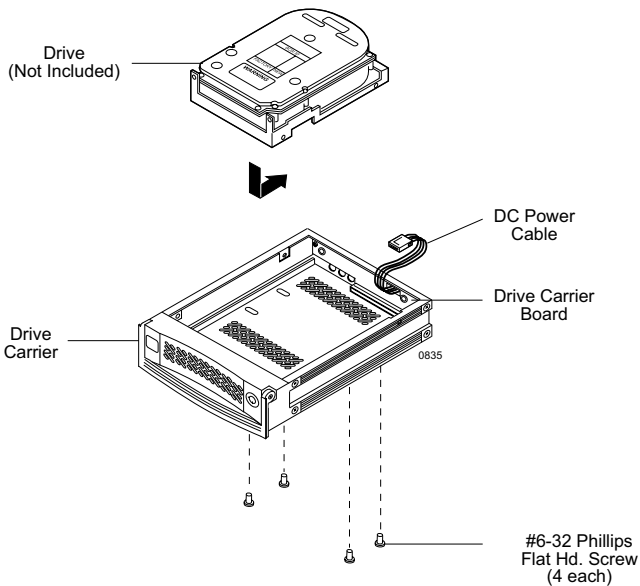

Figure 4: Drive Installation Assembly
3. Attach the DC power cable (from the Drive Carrier Board) to the drive (Figure 4).
4. Carefully insert the drive into the carrier. Slide the drive towards the Drive Carrier Board, so that the I/O connector on the drive mates with the connector on the Drive Carrier Board (Figure 4). **Make sure that the DC power cable is not pinched.**
5. Fasten the drive into place with four (4) #6-32 Phillips Flat Hd. screws (Figure 4).